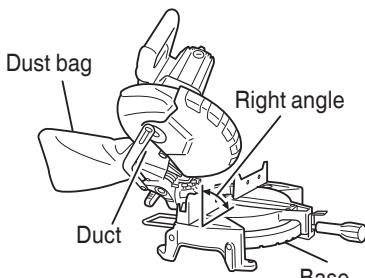

Fig. 26
(2) During bevel and compound cutting, attach the dust bag at a right angle to the base surface as shown in Fig. 26.